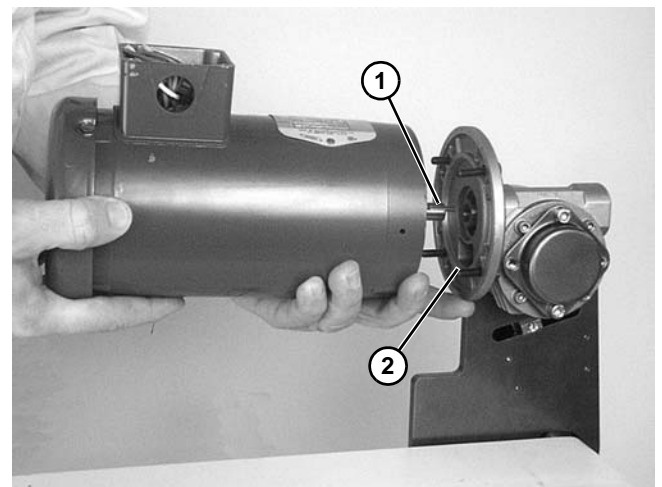

Figure 36
5. Apply anti-seize to motor shaft before assembling to gearbox. With key (Figure 36, item 1) in keyway, slide motor and gear reducer together. Install screws (Figure 36, item 2) and tighten.